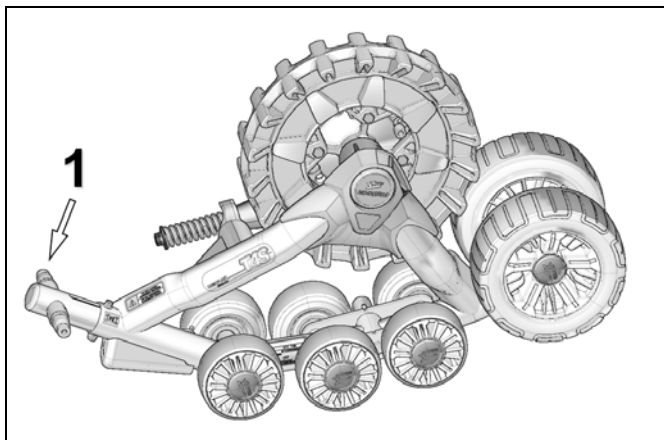

Figure 32.
- Remove the two 241 mm wheels on track tensioner. See Figure 32.